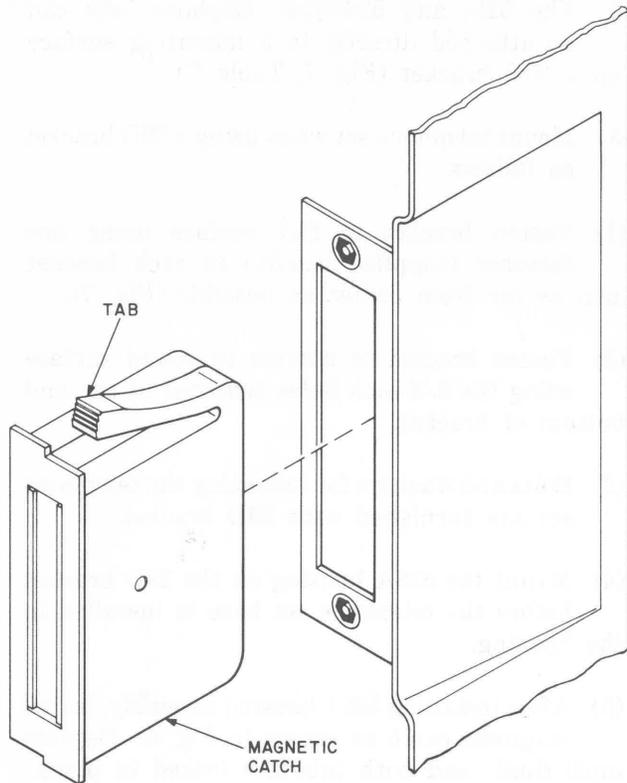
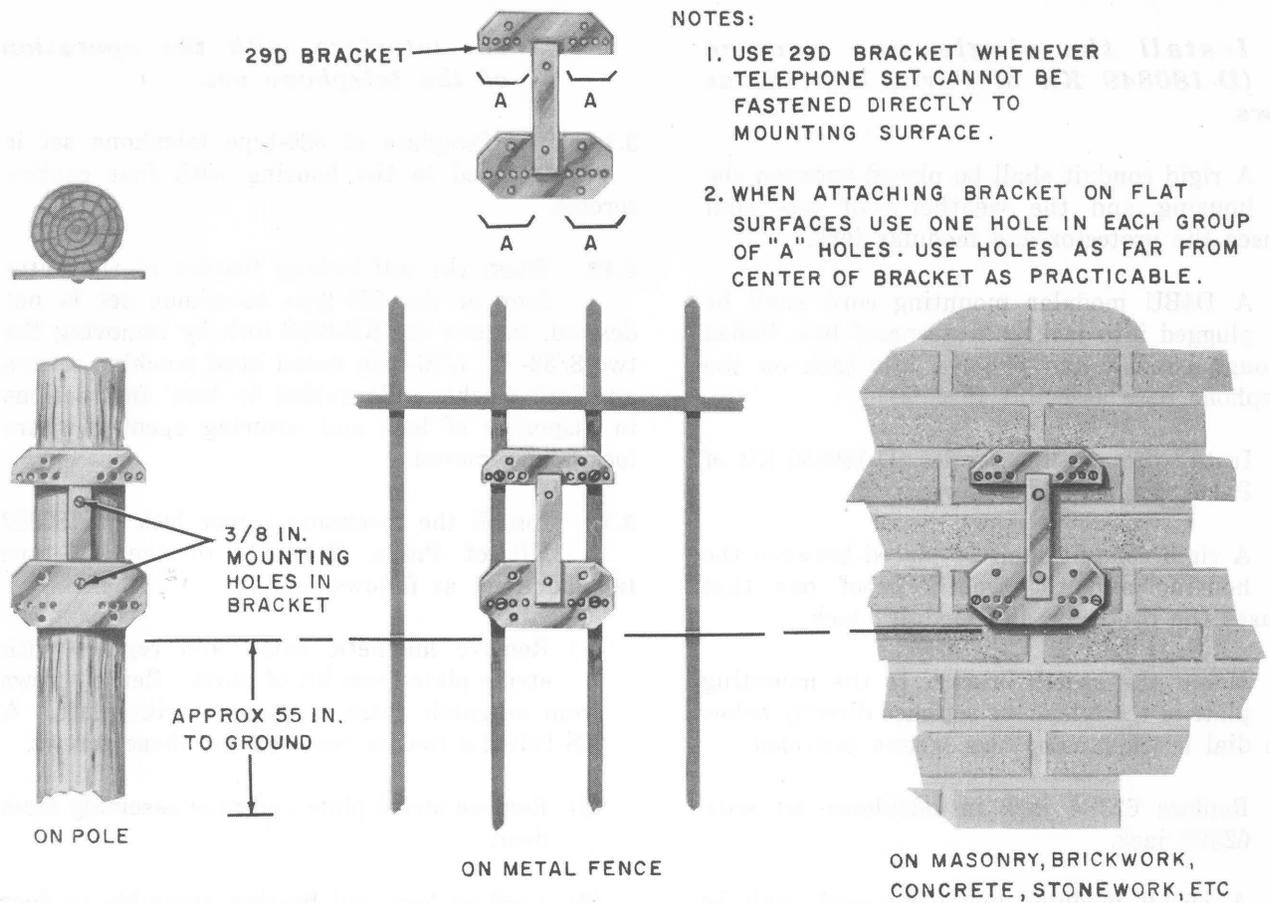

Fig. 4—Partial View of 526A Housing Assembly, Installation of Magnetic Catch
Fig. 7—29D Bracket Mounted on Various Surfaces
3.02 The 525- and 526-type telephone sets can be attached directly to a mounting surface or on a 29D bracket (Fig. 7, Table C).
- (1) Fasten bracket to flat surface using one fastener (supplied locally) in each bracket arm as far from center as possible (Fig. 7).
- (2) Fasten bracket to narrow or round surface using the 3/8-inch holes centered at top and bottom of bracket.
- (3) Bolts and washers for mounting the telephone set are furnished with 29D bracket.
- (4) Mount the 526A housing on the 29D bracket before the telephone set base is installed in the housing.
- (5) After installing 526A housing assembly, install magnetic catch as shown in Fig. 4. Depress until flush, and both tabs are locked in place.
- (6) With the outer and inner doors open, mount the telephone set in the housing.